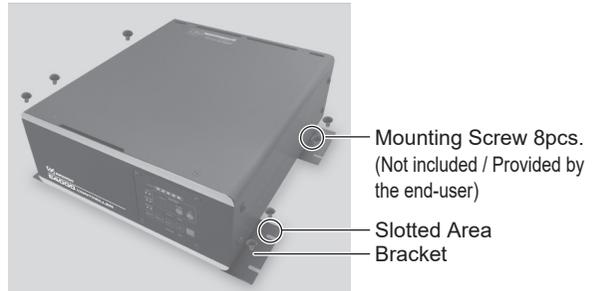

Fig. 12
- ③ Attach the CONTROLLER (Bracket's Slotted Area) to the machine using the mounting screws (**8 pcs. not included / provided by the end-user.**) (Fig. 12).